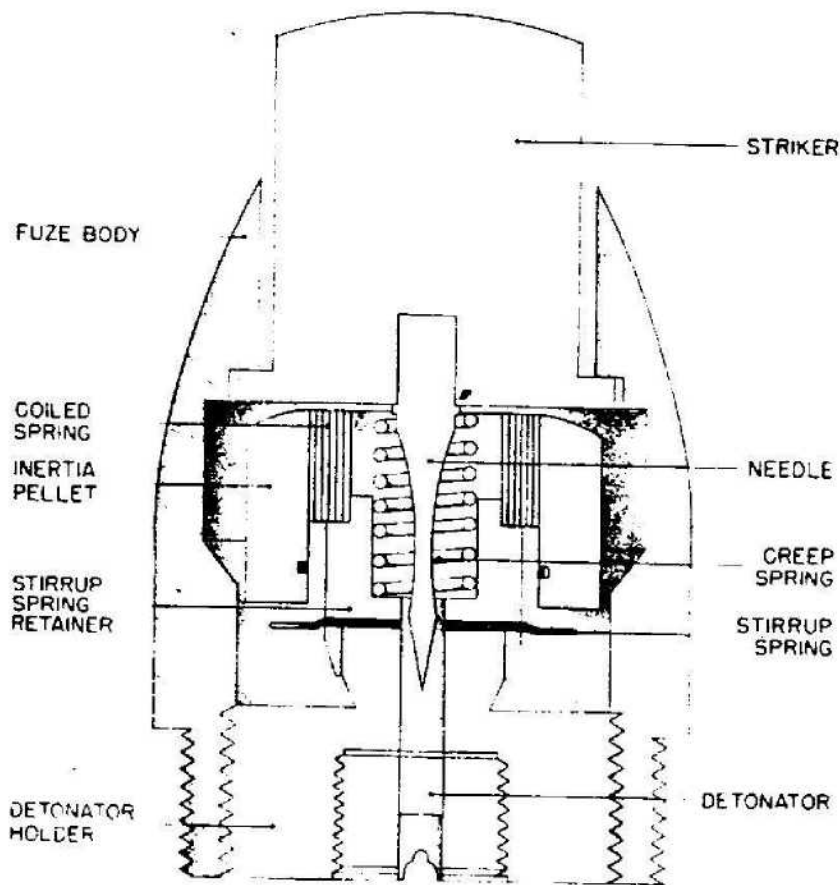

Figure 561—A. Z. 5075, A. Z. 5075 M. K.
**EMPLOYMENT:** Nose fuze for the 3.7-cm Strelgranate (3.7-cm Rodded Bomb) fired from the 3.7-cm Pak. (See fig. 561.)